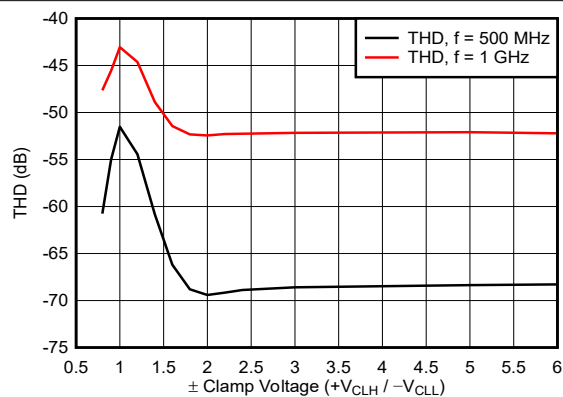

Figure 7-3. THD vs V_{CLH} / V_{CLL} for $V_{OUT} = 1 V_{PP}$
- The output THD of the BUF802 degrades when V_{CLH} and V_{CLL} are set close to the expected V_{OUT} peak value. To prevent signal degradation, maintain at least a 1.5-V difference between the expected peak output voltage and the clamp voltage applied at the CLH and CLL pins. Figure 7-3 shows the relation between the absolute clamp voltage value and THD for a 1 V_{PP} output.